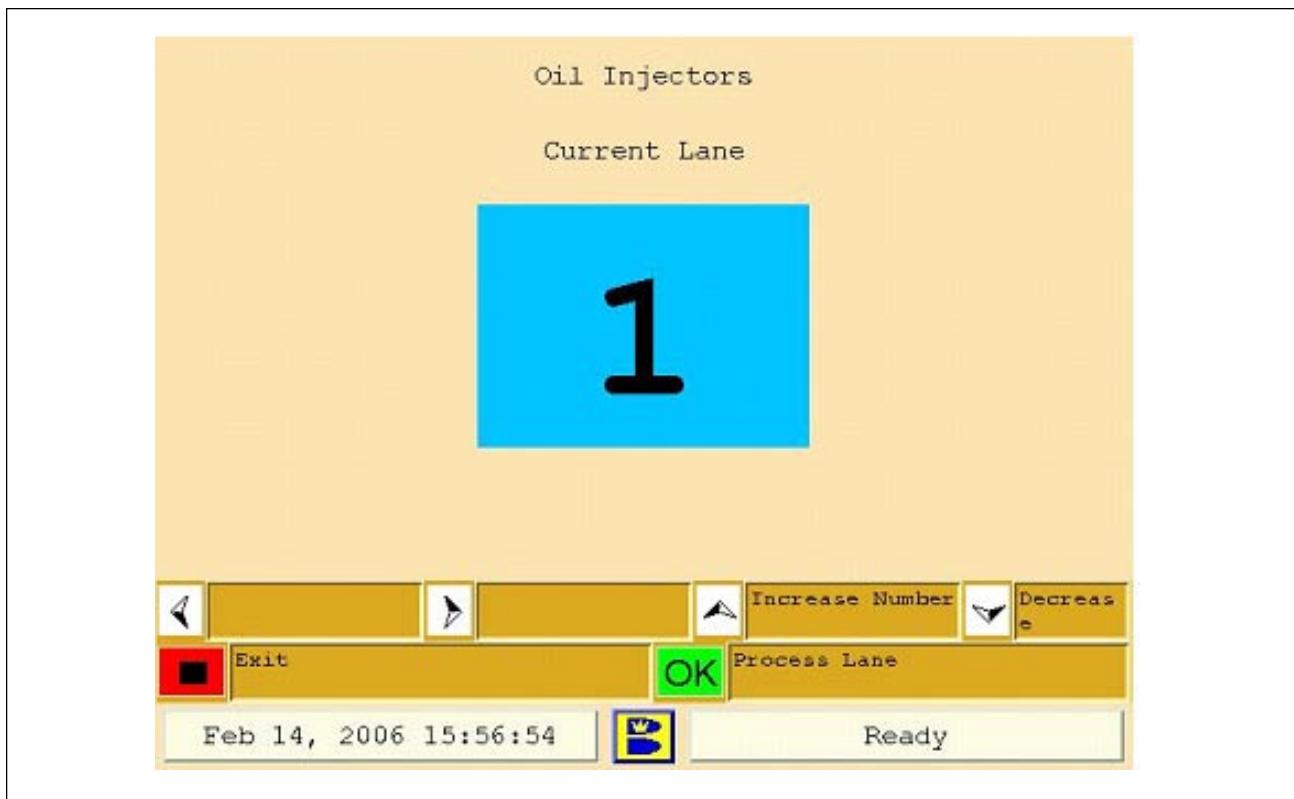

Figure 4-29. Oil Injectors
4. Select the Oil Injector test, press “OK” and the following screen will appear (“Oil Injector” will appear at the top of the screen for the injector test). Refer to Figure 4-29.